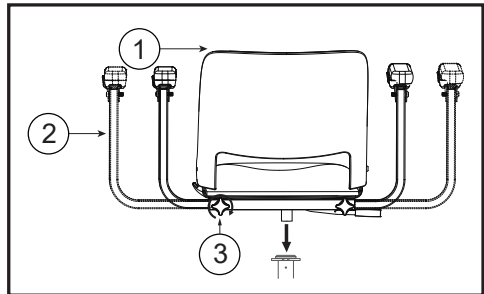

Figure 13
2. Move the armrests to the desired position and re-tighten the adjustable screws, changing the space between armrests (see figure 13).